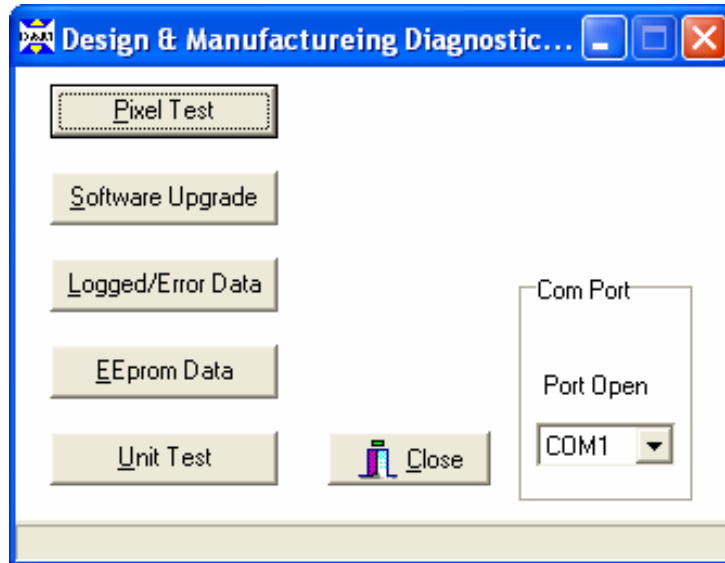

Figure 10
2. Select “Logged Error Data” Screen (shown in Figure 10). You will get the following screen: